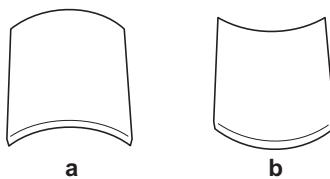

Figure 1-5-1
#### Paper curled downward (a in figure 1-5-1)
**Paper curled upward (b in figure 1-5-1)**